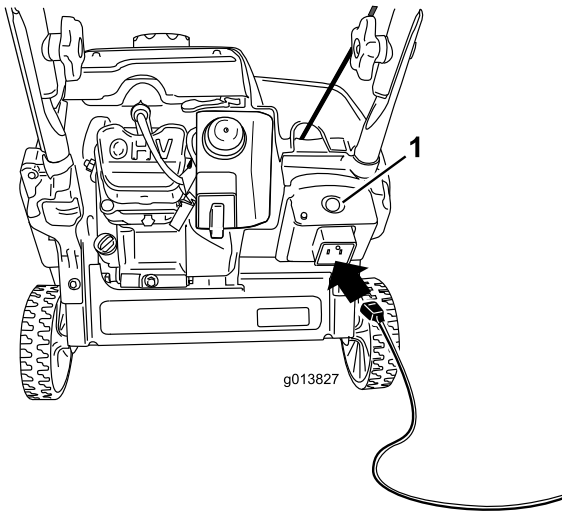
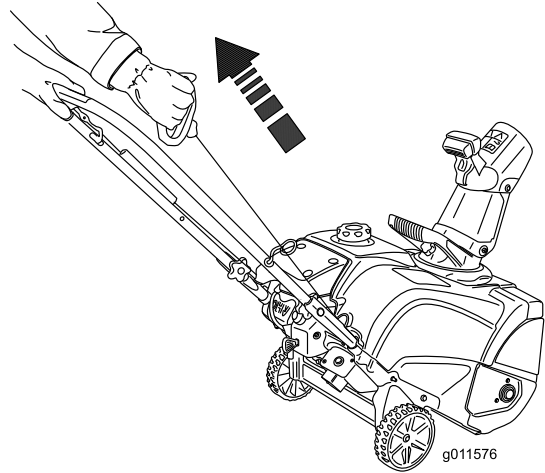

Figure 15
Figure 16
4. Connect an extension cord to a power source and the machine, and push the electric-start button (electric start only) as shown in Figure 15), or pull the recoil-start handle (Figure 16).